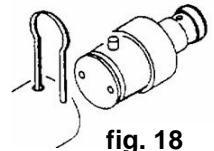

fig. 18
- With the Locking Device, push in the other Locking Bolt and pull-out the Inlet Part. (fig. 18)